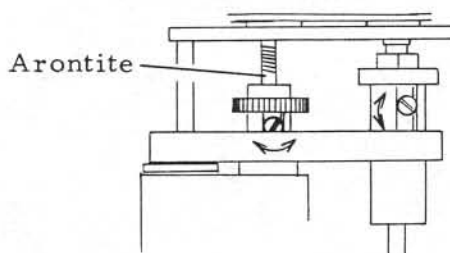

Fig. 23
3. After the adjustment, apply a drop of ARONTITE. Refer to Fig. 23.